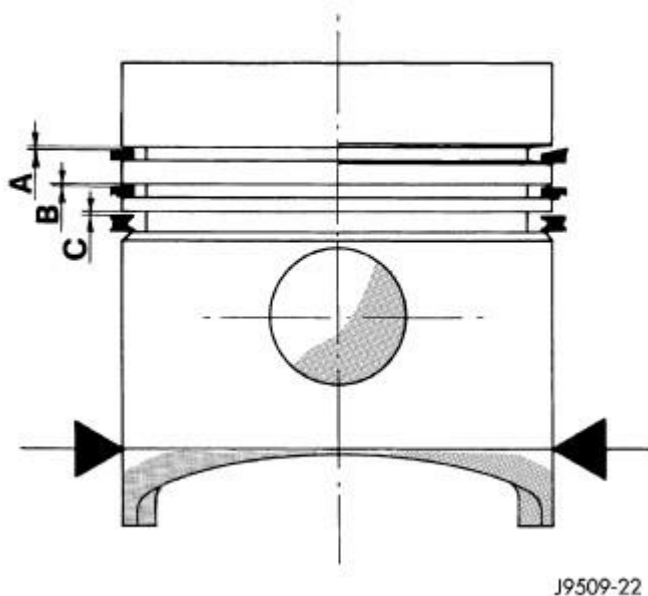

Fig. 237: Piston Ring To Groove Clearance
3. Check piston ring to groove clearance. Refer to **Fig. 237**. Top compression ring gap .080 to .130 mm (.0031 to .0051 in.). Second compression ring gap .070 to .110 mm (.0027 to .0043 in.). Oil control ring gap .040 to .080 mm (.0015 to .0031 in.).